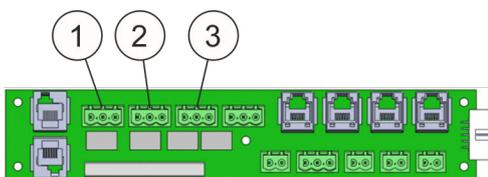

Fig. 70: Connecting terminals
- Connecting terminal for relay output *"Pre-alarm"* (Fig. 70/1)
- Connecting terminal for relay output *"Fire alarm"* (Fig. 70/2)
- Connecting terminal for relay output *"Extinguishing"* (Fig. 70/3)